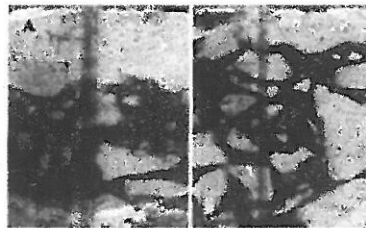

Fig. 2
- b Fig.2 shows two samples of carbonated concrete. Identify which concrete sample CO1 06